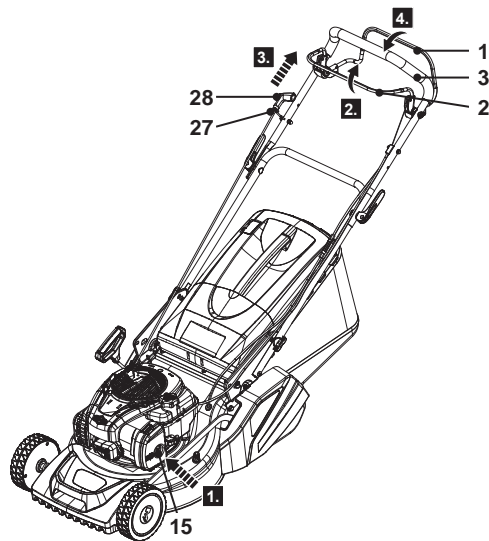

Fig. 20
1. Stand behind the upper handle bar (1).
2. Press the primer (15) 3 times if the engine is cold (Fig. 20, step 1). You can go directly to the next step if the engine is warm.
4. Rest the recoil starter handle (28) onto the hook (27) located on the right-hand side of the upper handle bar (1).
5. Pull the recoil starter handle (28) lightly until you feel resistance then pull it rapidly. Do it repeatedly until the engine starts (Fig. 20, step 3).
6. When you are ready to mow, push the self-propelling lever (2) forward and hold it against the upper handle bar (1) (Fig. 20, step 4). The product starts moving forward and begins mowing.